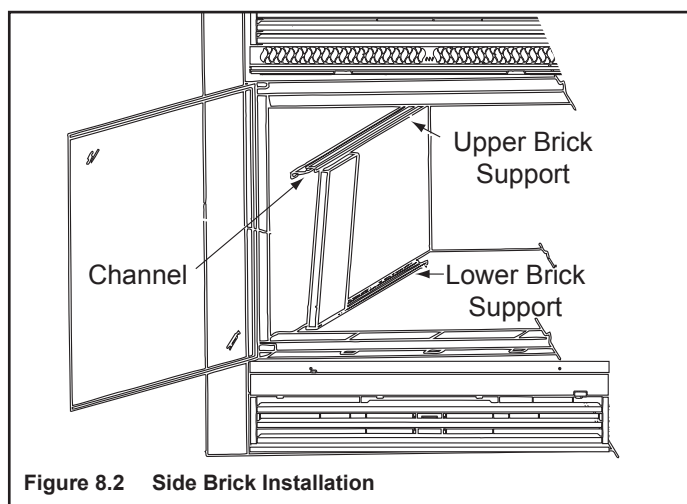

Figure 8.2 Side Brick Installation
- Set bottom of side brick (three bricks per side) into lower brick support. See Figure 8.2.